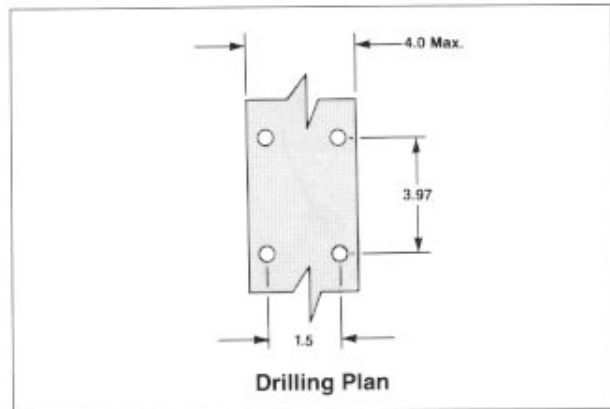

Figure 1
- Drill or punch four 0.313 in. diameter holes in the hole pattern (Figure 1).
- B. Drill or punch four 0.313 in. diameter holes in the hole pattern (Figure 1).